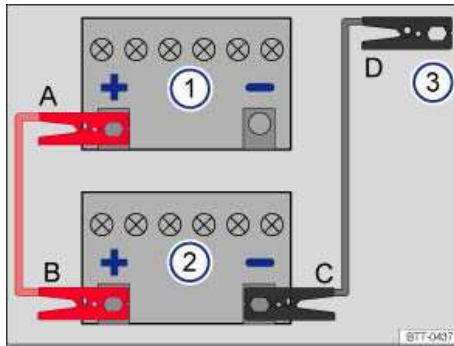

Fig. 211 Diagram for attaching the jumper cables: Dead battery 1 and booster battery 2.
The procedure for attaching and for removing the jumper cables is described below. Perform each of the following steps only in the order described, which follow the letters shown in the illustration ⇒ fig. 211
5. Attach one end of the *black* jumper cable to the **negative terminal (-)** of the booster battery: \(2\) ⇒ fig. 211.